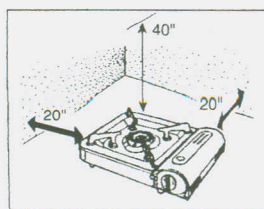

Fig.23
8. The unit with clearance to combustible materials of top 40", left and right side 20". (Fig 23)